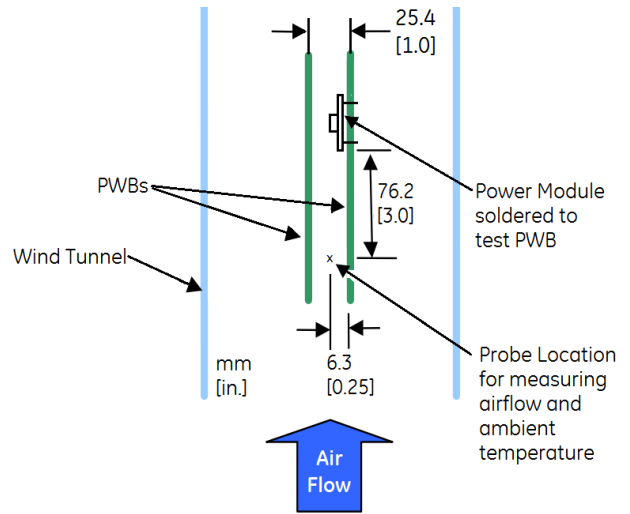

Figure 17. Thermal derating test setup.
The JNCW016A0R module provides a non-latching over temperature protection. A temperature sensor monitors the operating temperature of the converter. If the reference temperature, T_{ref1} , T_{ref2} (see Figure 17) exceeds a threshold of 103 °C (typical), the converter will shut down and disable the output. When the base plate temperature has decreased by approximately 20 °C the converter will automatically restart. The module can be restarted by cycling the dc input power for at least one second or by toggling the remote on/off signal for at least one second.